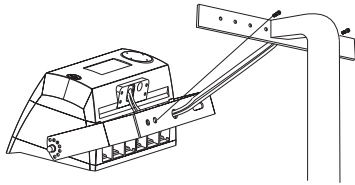

Figure 12
3. FLOOD MOUNTING (FM)
Step 1: Drill holes on the wall as shown. (Figure 12)